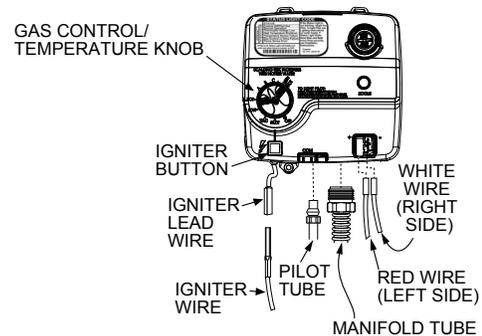

FIGURE 39.
5. Disconnect the following from the gas control valve/thermostat: pilot tube (7/16" SAE wrench), igniter wire (from the igniter lead wire), and manifold tube (3/4" SAE wrench). See Figure 39.
6. Disconnect the white and red wires from the gas control valve/thermostat (Figure 39). Use needle nose pliers to grip the connector(s). **IMPORTANT:** Grip the connector carefully to prevent damage. Do not grip or pull the wires themselves.
6. Reconnect the manifold tube (3/4" SAE wrench) and pilot tube (7/16" SAE wrench) to the gas control valve/thermostat (Figure 39). Do not cross-thread or apply any thread sealant to the fittings.
7. Connect the white and red wires to the gas control valve/thermostat as shown in Figure 39.
8. Reconnect the igniter wire (Figure 39).
- Disconnect the igniter wire from the igniter lead wire. Use needle nose pliers to disconnect the red (+) and white (-) thermopile wires. Disconnect the pilot tube (7/16" SAE wrench) and manifold tube (3/4" SAE wrench) at the gas control valve/thermostat. See Figure 39.